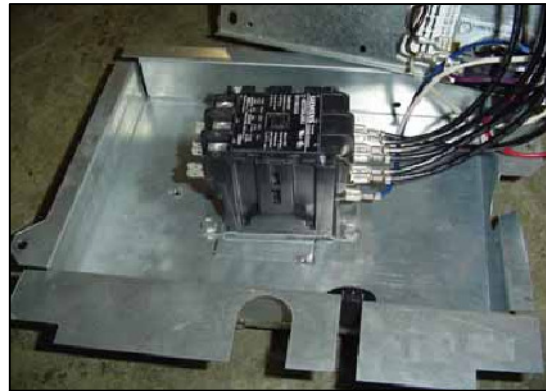

Fig. 5
- 8.) **For three phase HKR kits only**, remove the contactor from the HKR heater plate, leaving the wires connected. Attach the contactor to the rear mounting plate. (See fig. 5)